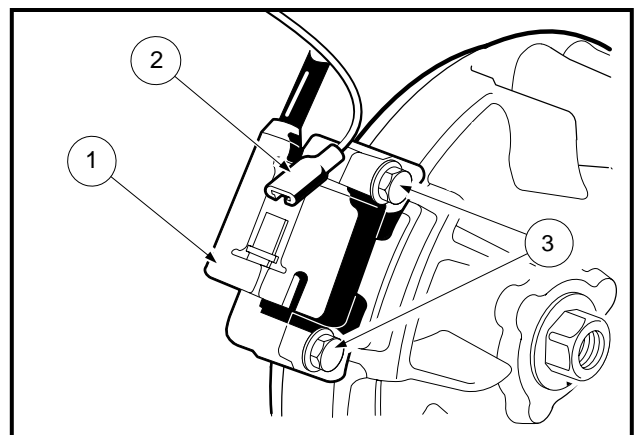

Figure 13-62 Ignition Coil
- Disconnect the ignition coil (1) from its primary lead wire at the connector (2). Remove the two bolts (3) and take out the ignition coil (**Figure 13-62, Page 13-31**).